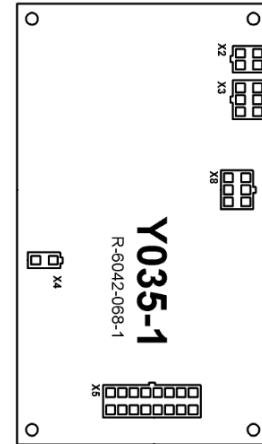

Figure 6 – plugs locations
4. Unplug the connectors **X2**, **X3**, **X4**, **X5** and **X8** from the motor control board. See **Figure 6** for plugs locations.